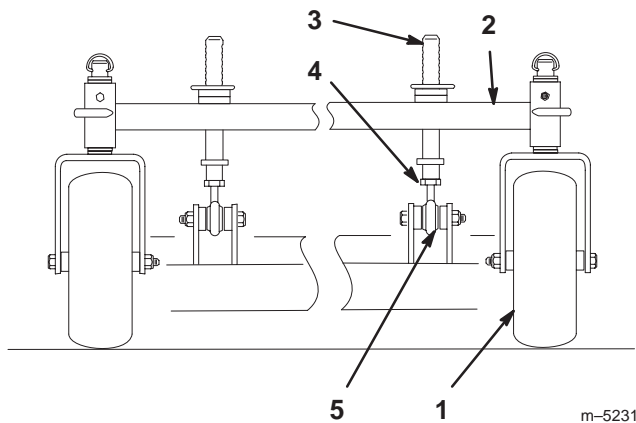

Figure 53
1. To change the front-to-rear pitch, the front height-of-cut posts can be adjusted (Fig. 53).
2. To raise the front of the deck, loosen jam nut and rotate the front pin clockwise (Fig. 53).
3. To lower the front of the deck, loosen jam nut and rotate the front pin counter clockwise (Fig. 53).